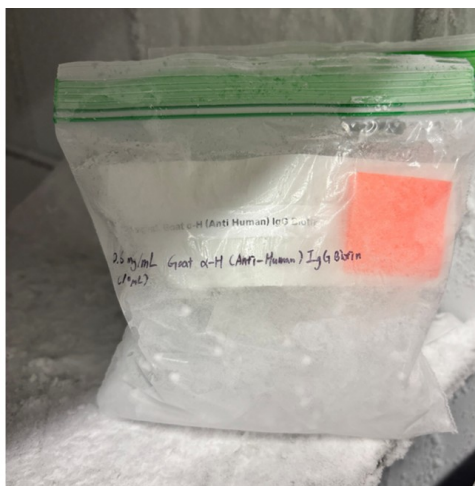

Figure 9: 0.6 mg/mL Goat α -H (Anti-Human) IgG Biotin
1. Take out and prepare 10 uL of 0.6 mg/mL Goat α -H (Anti-Human) IgG Biotin from the -75°C freezer in the bio lab (Figure 9)